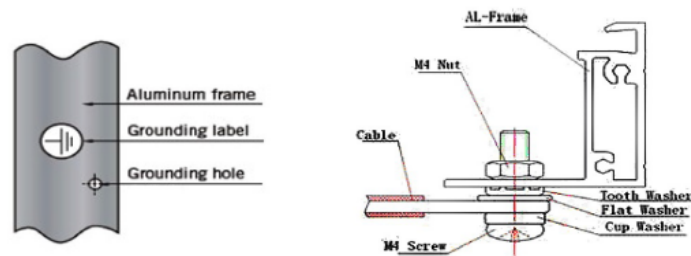

Figure 4. Grounding mark on module and the bolt connection
- The grounding conductor must be connected to the ground passing through a suitable ground electrode. It is recommended to use ground wire accessories (wiring nose) to connect the grounding cable. Welding the grounding cables within the socket connecting nose, then use the M4 screw to insert into the wiring nose rings and module frame grounding hole, then fasten them with a nut. Star spring washer should be used to prevent the screw loose, which leads to bad earth. As shown in figure 4